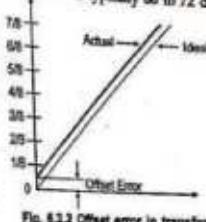

Fig. 6.2.2 Offset error in transfer characteristics of DAC
- It adds a constant value to all output values, as shown in Fig. 6.2.2.